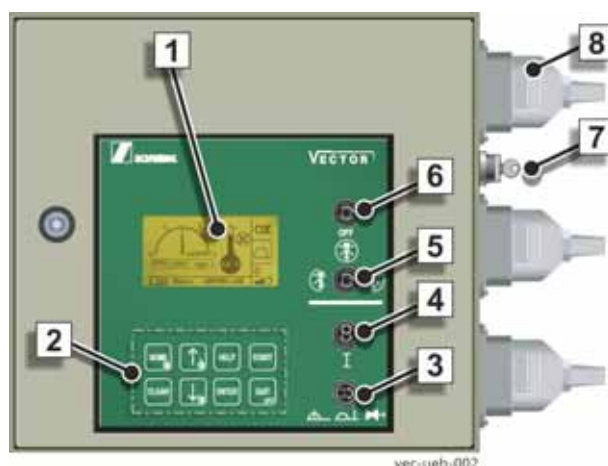

Fig. 120 Switch cabinet for VECTOR control system
The computer boots up, which is indicated by a progress bar on the display (1) (**Fig. 120**).
- Flip the selector switch (3) (**Fig. 120**) to the "Local control" position.
Display (1) (**Fig. 120**) contains a relevant note, see (“**VECTOR control system**” on page 125).
<p>➤ Start the control with the button (4) (Fig. 120).</p>
Display (1) (**Fig. 120**) indicates the rotational speed of the power take-off or the drive speed of the distributor transmission.